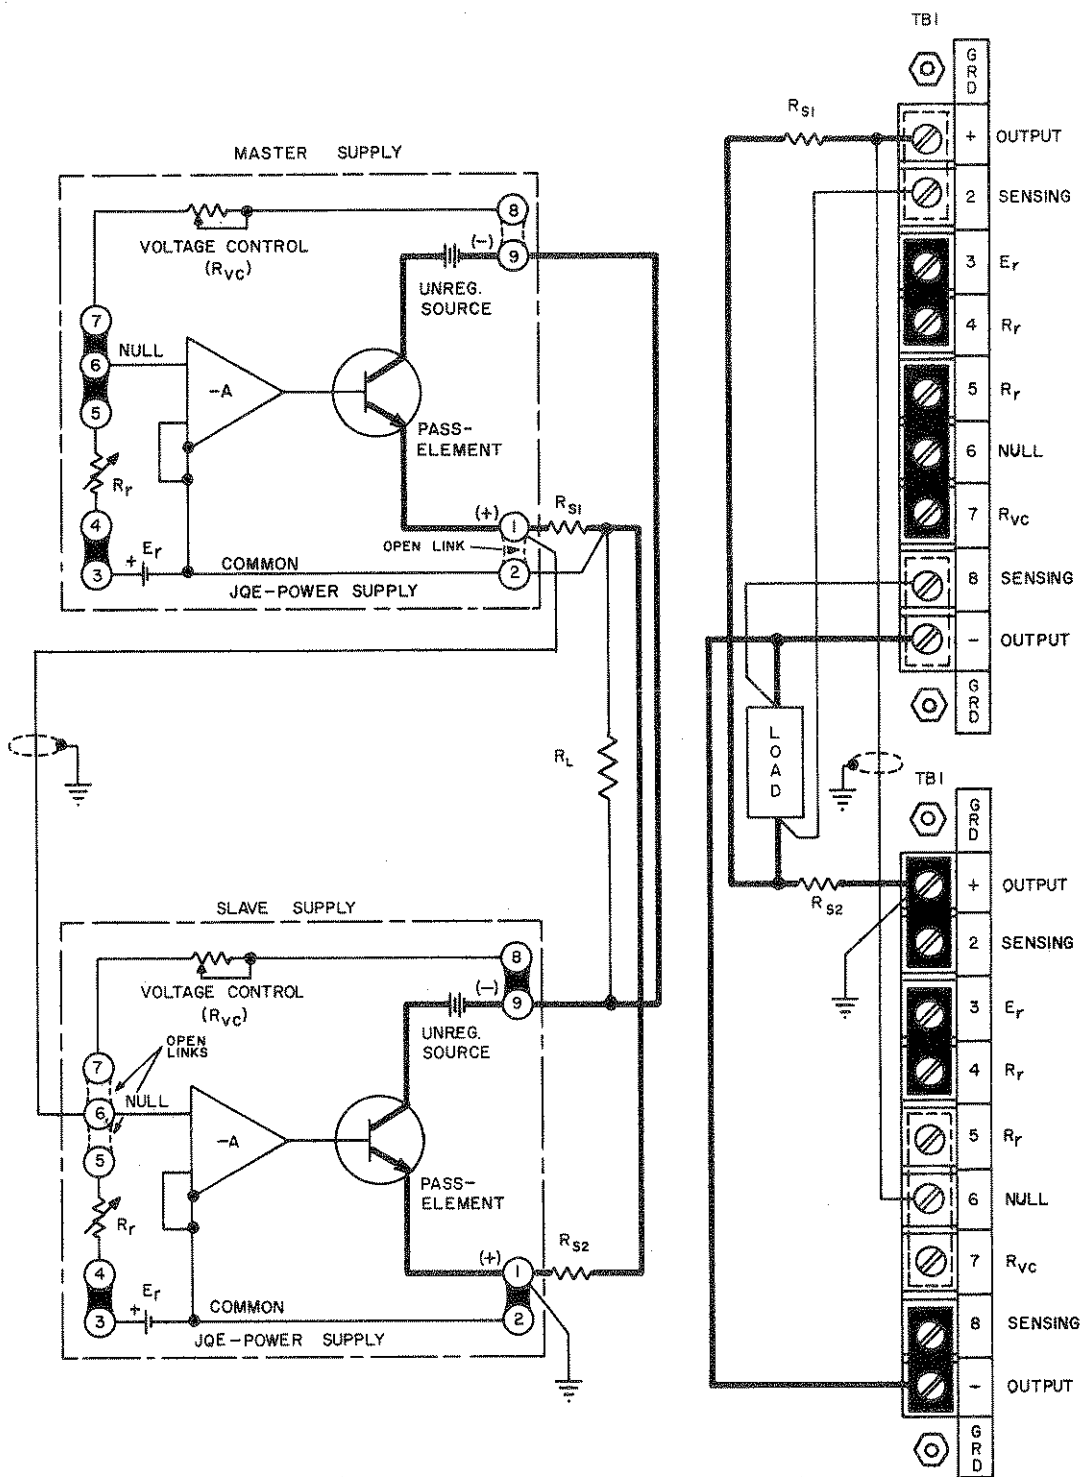

FIG. 3-15 MASTER-SLAVE PARALLEL CONNECTION OF JQE POWER SUPPLIES
3-44 MASTER-SLAVE PARALLEL OPERATION. Kepco Power Supplies may be paralleled if the output current from a single supply is not sufficient for the application at hand. With the parallel connection shown in FIG. 3-15, the total output current of the parallel supplies may be controlled from a single "Master" supply. To operate the parallel supplies in the "Master-Slave" connection, sensing resistors of equal value must be selected ( $R_{S1}$ ,  $R_{S2}$  in FIG. 3-15) such that the voltage drop across them is about 0.1 to 0.25 volts at the output current of interest. The *sum* of the voltage drops across the load wire with the sensing resistor in series should *never exceed 0.5 volts* at the maximum desired operating current. If sensing resistors of the proper value are not available, the resistances of the load wires may be used to establish the necessary voltage drops. In this case, the load wires should be trimmed such that *equal voltage drops* are established in the lead from the "Master" and that from the "Slave" supply. Load wires should in general be of as heavy a wire gauge as practicable. Twisting of the load wires, as well as of the error sensing leads from the "Master" supply (although *not* shown in FIG. 3-15) is recommended.
- Connect supplies as shown in FIG. 3-15, keeping load and error sensing leads as short as possible. Use shielded wire for the connection from terminal (2) of the "Master" to terminal (6) of the "Slave" unit.